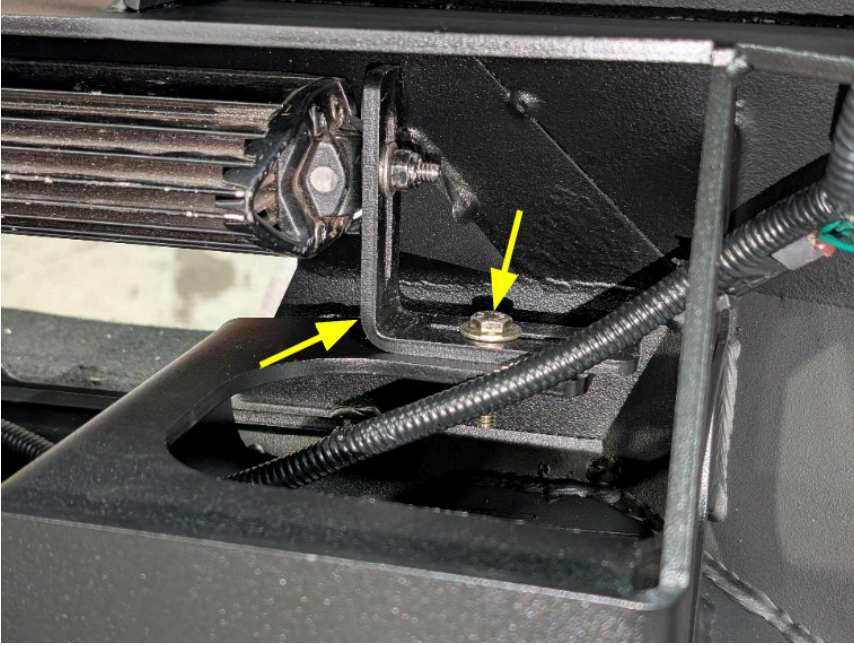

Figure 49
- 33. If installing a 30" light bar, do so now using the provided L-Brackets [21871] and 1/4" yellow zinc HHCS with flat washers and nuts. (Figure 49)**